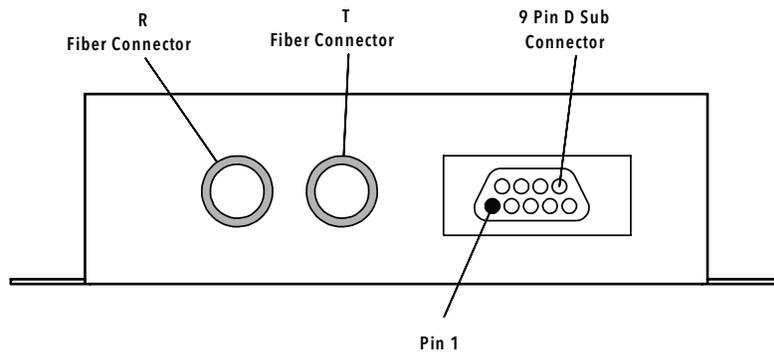

Figure 5 Optical Ports and Electrical Port
6. Verify operation using the diagnostic/status indicating LEDs. (See Figure 5).